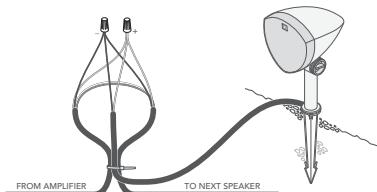

Figure 8
8. Cut the correct two wires for the left or right speaker (see the tables below) and strip 3/4" of insulation on the exposed ends of the burial wires, then strip 3/4" insulation from the ends of the corresponding speaker's pigtail (see Figure 8).
9. Create a loop of approximately 10", and use a wire tie to hold the wire loop and speaker pigtail in place to provide strain relief (see Figure 8).